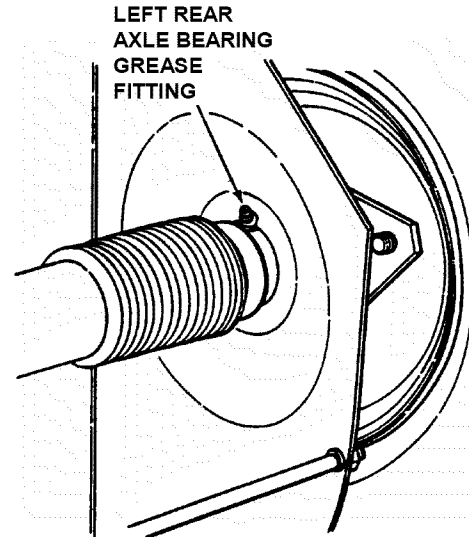

FIGURE 3.7
1. The left rear axle bearing on 28" and 30" machines requires three shots of general purpose grease from grease gun. See Figure 3.7.